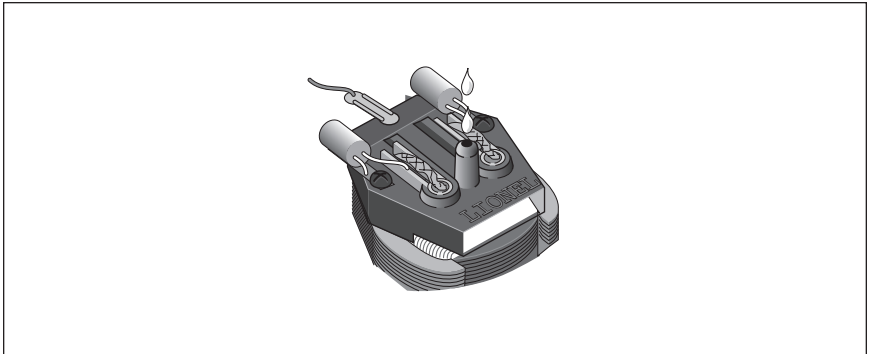

Figure 6. Pullmor motor lubrication
2. Apply a small amount of Lionel oil (two drops) in the armature shaft hole. Refer to Figure 6.